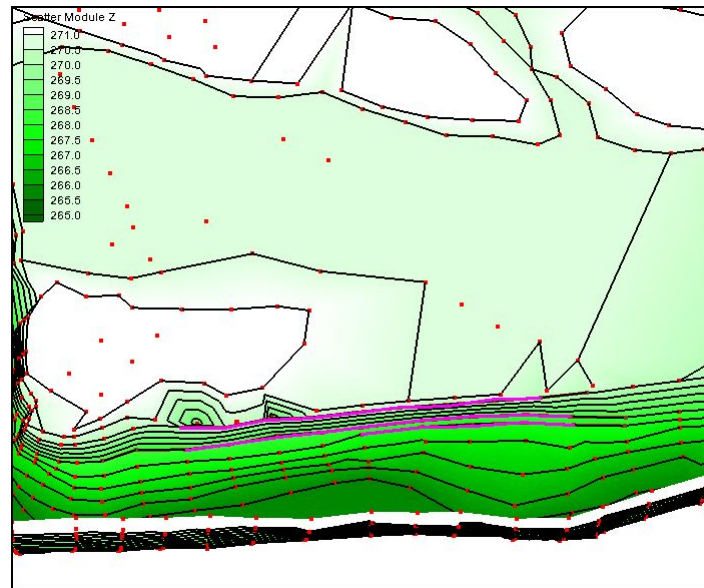

Figure 10 TIN with breaklines forced
8. Switch to the *Select Breakline* tool, select each breakline and right click. From the *Breaklines* drop-down menu, select *Force Breakline*. The screen should now look like Figure 10